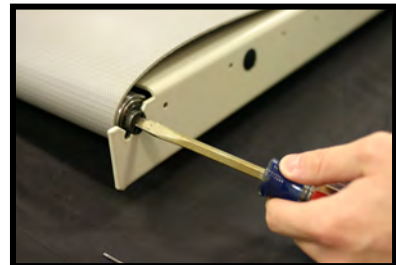

Figure 2
b. Remove tension from the belt by rotating the Tail Assembly 180 degrees with a Tail Turning Tool or a wide Flathead Screwdriver (**Figure 2**).